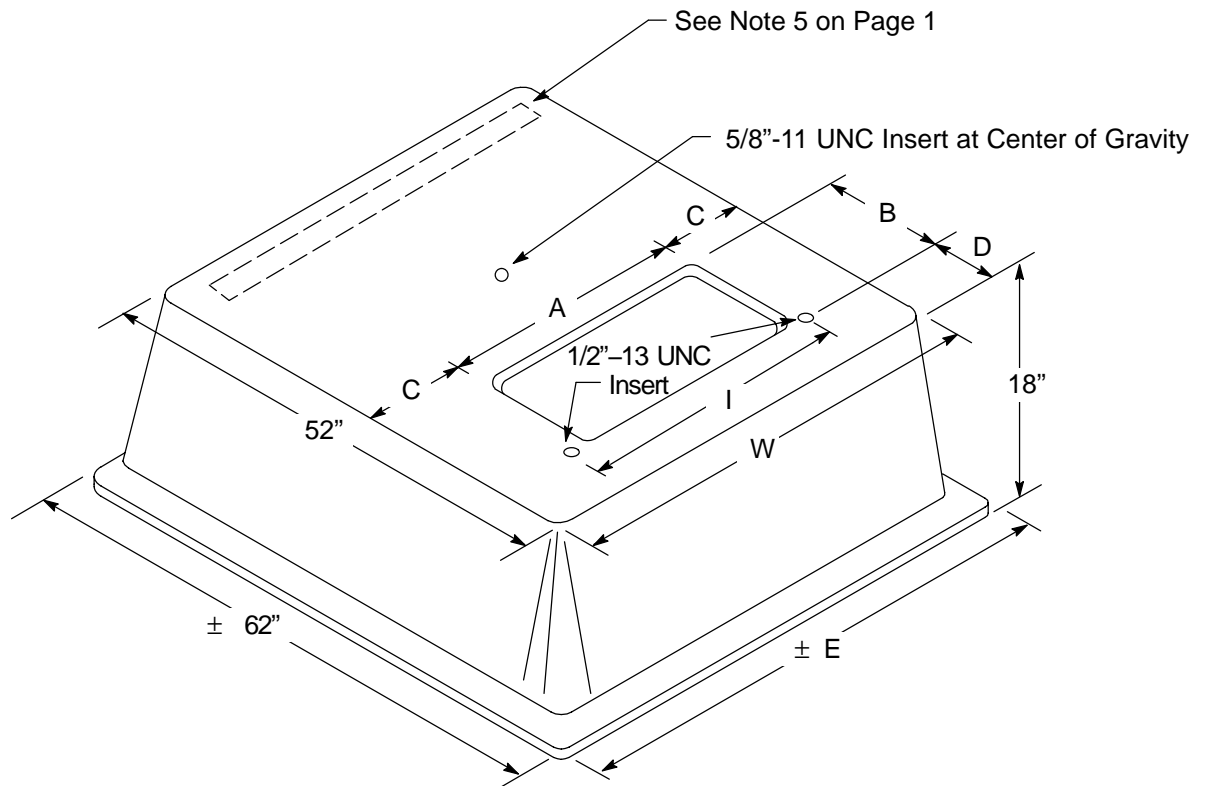

Figure 1
5. The pads shall be permanently identified with manufacturer's name, month and year of fabrication, nominal weight, and PG&E code number in the area indicated in Figure 1 on Page 3.